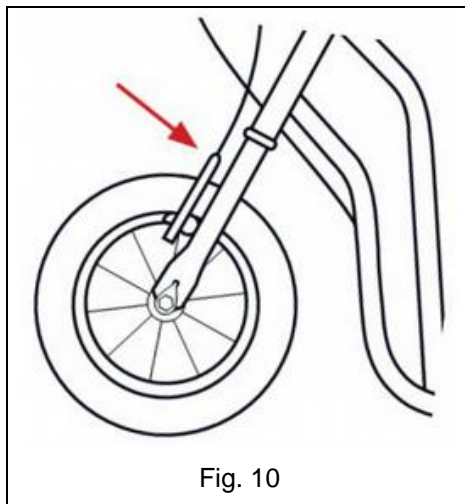

Fig. 5
6. Insert the handlebar rod into the handlebar tube (Fig. 5). Adjust the handlebar height to the rider's needs. The maximum extension height is marked on the handlebar rod. Make sure the axis of the handlebars is parallel to the axis of the front wheel and properly tighten the screw (Fig. 4).